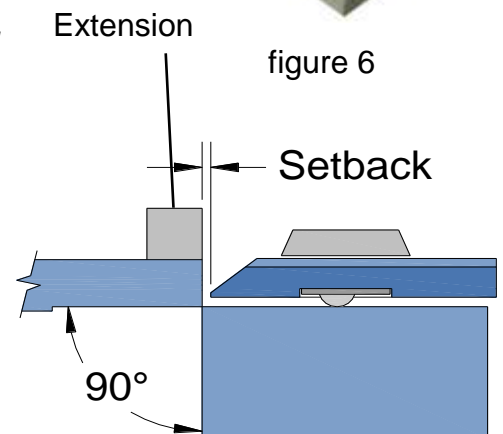

figure 7
3. Set the machine for the material thickness you will be bending. Raise the bending leaf 90° as shown in (fig. 7). Rotate the knobs on each end of the clamping bar which adjusts the setback distance gap. Set this gap at slightly more than the material thickness to achieve an accurate bend. There are three positions on the knobs (0 – 1 – 2) which are useful when doing repeat bending.